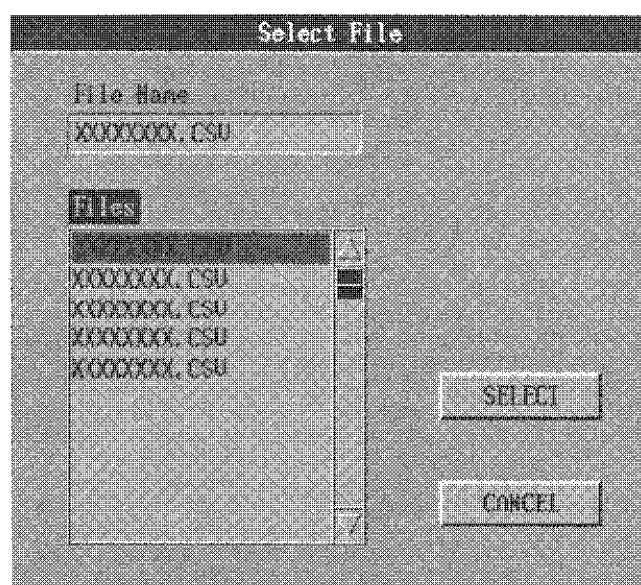

**Figure 3-18: Floppy Disk Drive**
1. Place the diskette into the floppy disk drive, located at the right side of the keyboard drawer (*figure 3-18*).
- To remove the diskette, press the DISK EJECT button (*figure 3-18*). Label the diskette with the name of the copied file.